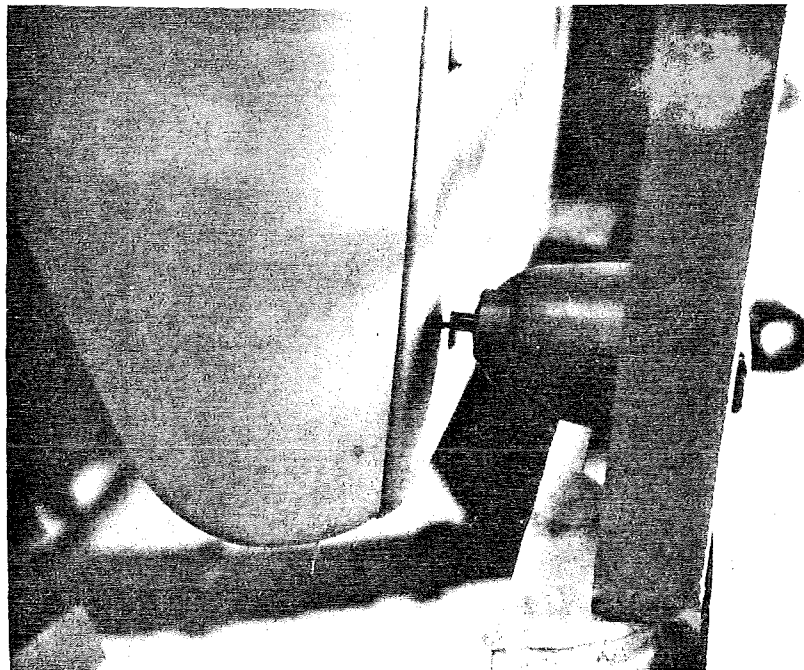

FIG 1 - BLACKOUT MARKER LIGHT WIRING - FRONT
2. Proceed as follows (see Figs 1 and 2):